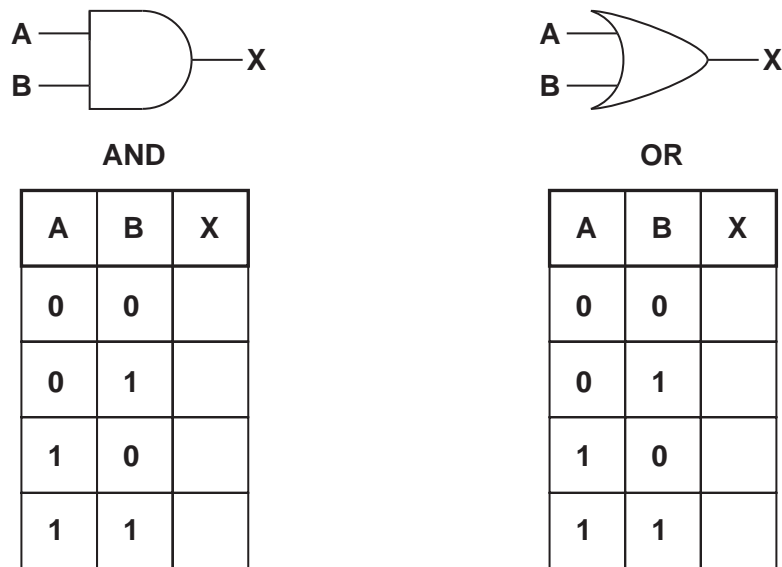

Fig. 5
- 3 (a) Fig. 5 shows two logic gates and partly completed truth tables.
- (i) Complete the truth tables for the logic gates shown in Fig. 5. [2]